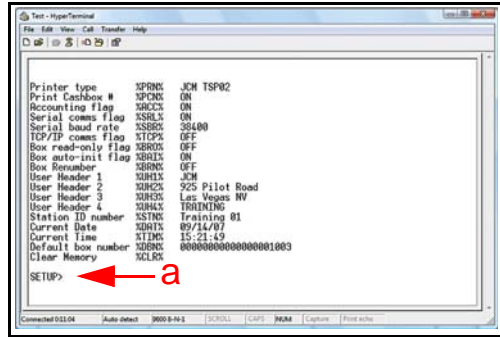

Figure 10 Read-Write Tool Parameters Screen
3. **Enter a Command Line** on the HyperTerminal Access Screen following the **SETUP>** prompt (See Figure 10 a). The Command Format is as follows: